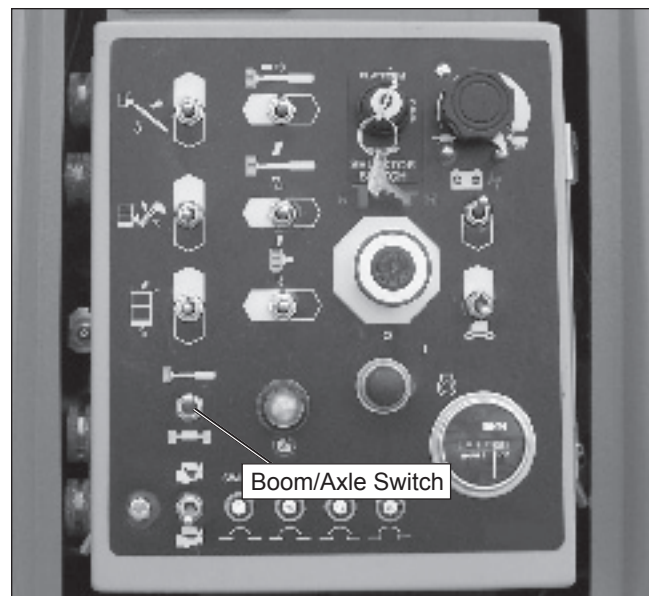

Figure 8.1 – Lower Controls
1. Pull the emergency stop button (refer to Figure 8.1) outward. Insert the key in the control selector and turn the switch to the lower control position.